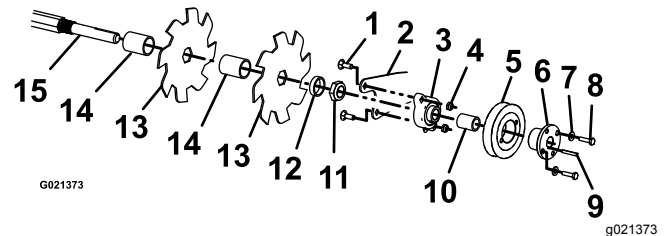

Figure 27
9. Remove the 4 carriage bolts and locknuts securing the cutting blade assembly (Figure 27), and remove it from the fork mounting bracket.
10. Remove the 2 bolts and washers attaching the pulley to the bearing. Loosen the setscrews on the bearing, and slide the key off the shaft (Figure 27). Remove the bearing and pulley by removing the bearing fasteners from the fork mounting bracket.